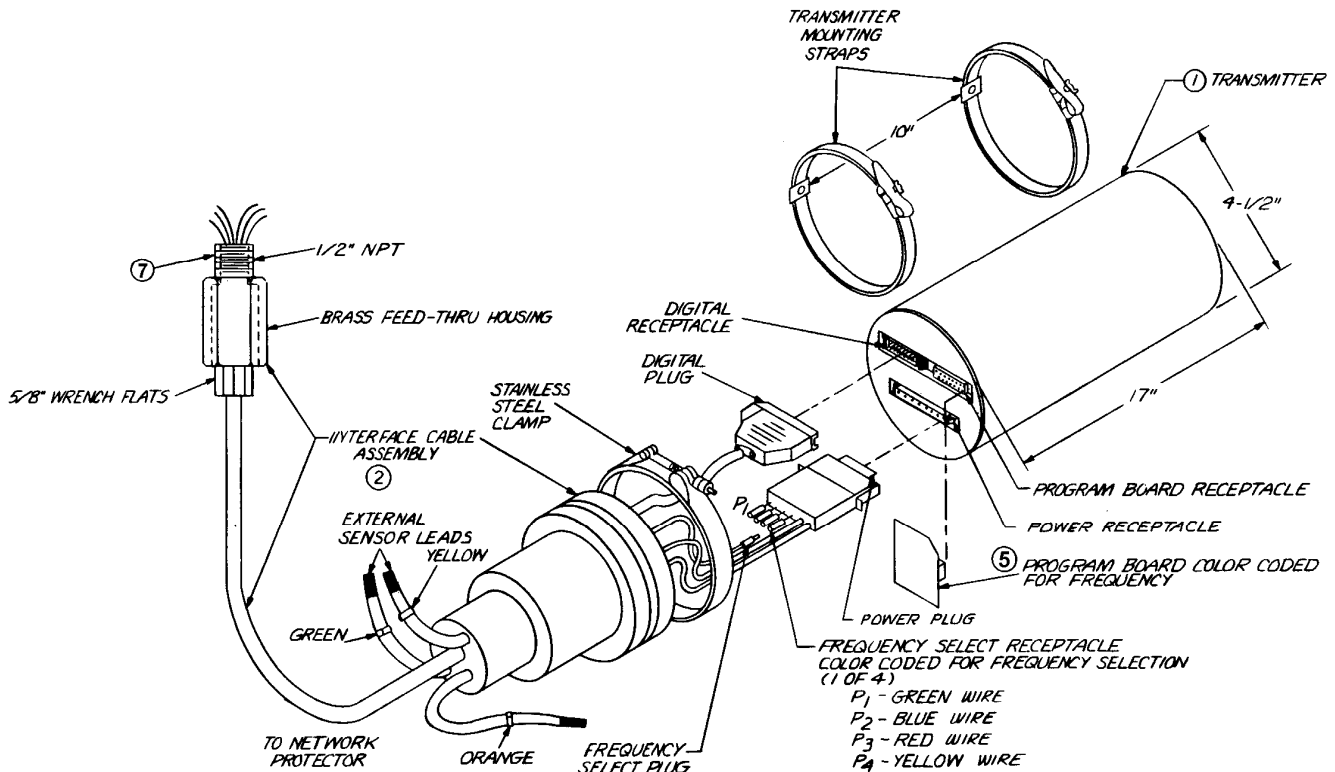

FIGURE 2
The interface cable assembly is supplied with two connectors and a rubber boot molded onto one end, three sealed two-wire rubber-covered cables, and a cable with a pressure seal containing loose wires at the opposite end. The rubber boot end is attached to the monitor transmitter. The three sealed two-wire rubber-covered cables are attached to switches outside the network protector as directed on the transformer installation drawing. The cable with the pressure seal containing loose wires is routed through the network protector case and attached inside the network protector (see Figure 2).
2.3.1 Connect the transmitter to the program board and the interface cable. The rubber boot end of the interface cable is attached to the transmitter by connecting the electrical plugs per Figure 2 and in the following order: